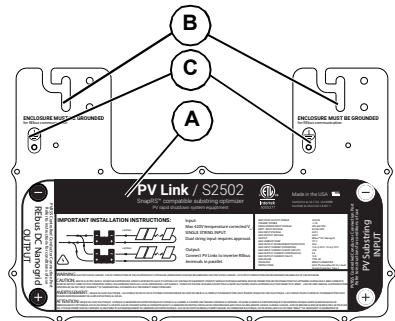

Figure 5-2. Grounding Terminal Location
See Figure 5-2. If mounting PV Link underneath an array to metallic PV racking, install the PV Link with label (A) facing up. Attachment flange slots (B) accept fasteners up to M8 or 5/16 in diameter.
- See Figure 5-2. Fasten the equipment grounding conductor to grounding terminal (C) using a field supplied lug.
3. See Figure 5-2. Fasten the equipment grounding conductor to grounding terminal (C) using a field supplied lug.